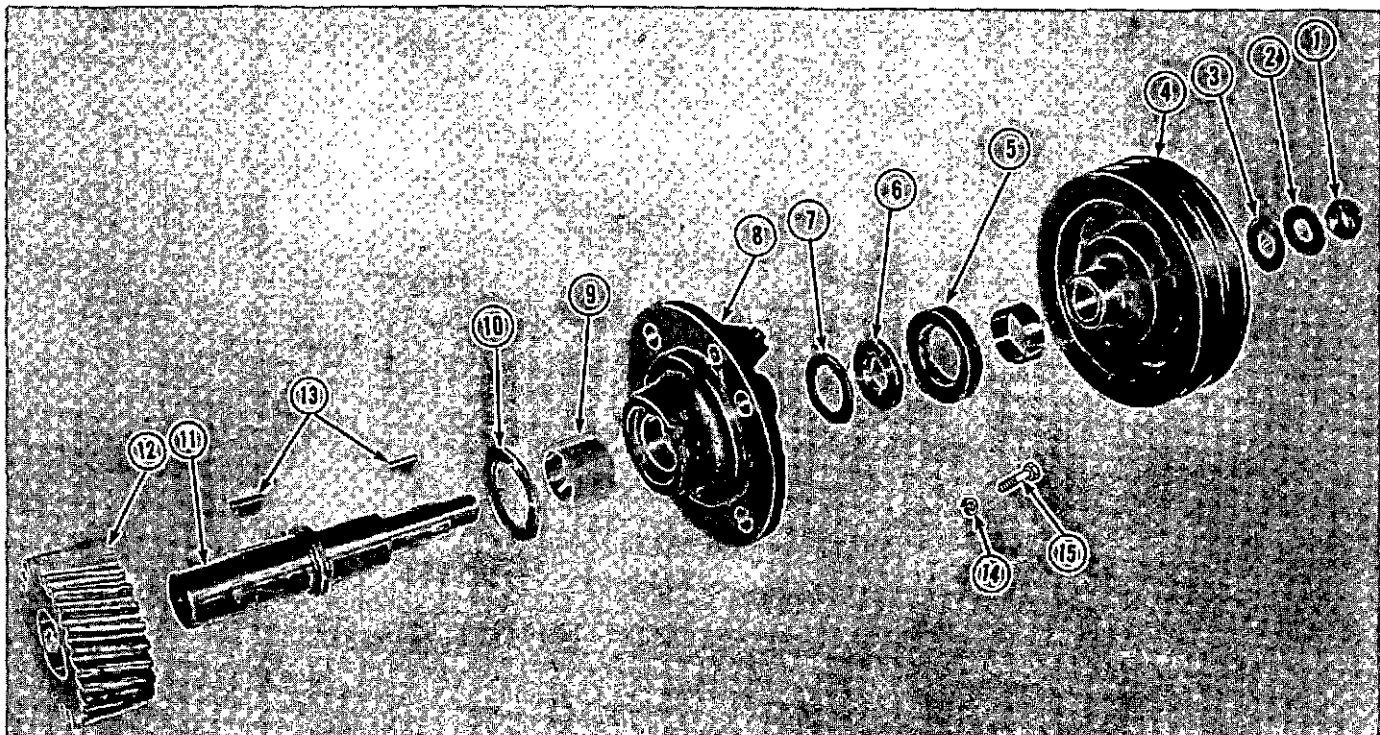

Fig. 9-2-1, V40811. Generator/auxiliary drive
1. Remove locknut (1, Fig. 9-2-1), flatwasher (2), and copper washer (3) from shaft (11).
2. Use suitable pulley puller; remove pulley (4) and key (13) if not previously removed.
3. Remove oil seal (5) from support (8); discard seal.
4. Remove spacer (6) and thrust washer (7) from shaft.
5. Remove shaft (11) and gear (12) assembly from support; remove large thrust washer (10).
2. Inspect drive gear (12, Fig. 9-2-1) for broken or worn teeth; replace if needed.
1. Install key (13, Fig. 9-2-1) in shaft (11) and press drive gear onto shaft against shoulder of shaft.